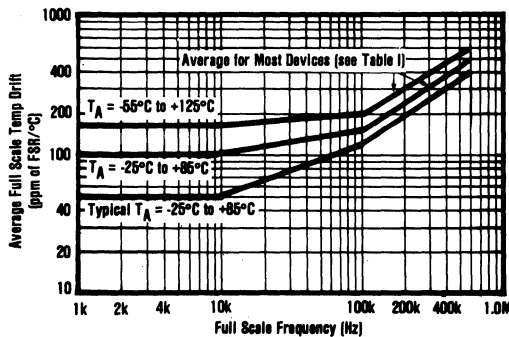

FIGURE 8. Full Scale Drift vs Full Scale Frequency.
7.2 **Frequency stability versus temperature.** The full scale frequency drift of the VFC32 versus temperature is shown in Figure 8. The temperature coefficient effects of the external components (especially R_1 and C_1) must be added to the drift of the converter.